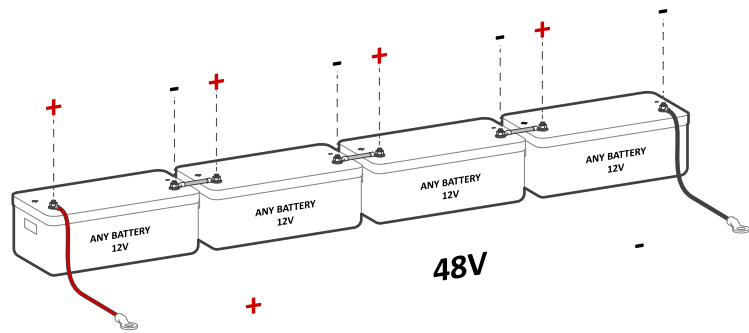

Figure 5b: 12V batteries in series connection
⚠ Sol-Ark 15K-2P-N is a **48V nominal system**. **DO NOT** connect the inverter to any other battery configuration. If you use 12V batteries, you **MUST NOT** exceed four (4) batteries in series, as shown in Figure 5b. The inverter can work with any battery chemistry as long as it remains within the range of **43V to 63V**.